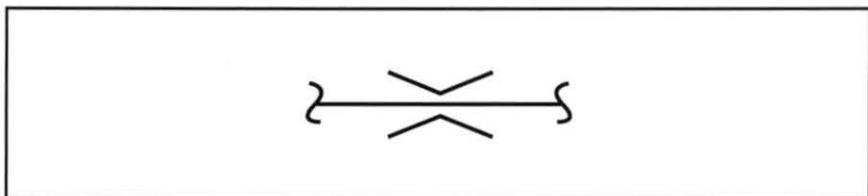

Figure 50. Flow Sensing Element Symbol
4. Determine what type of flow sensing element symbol is shown in figure 50.